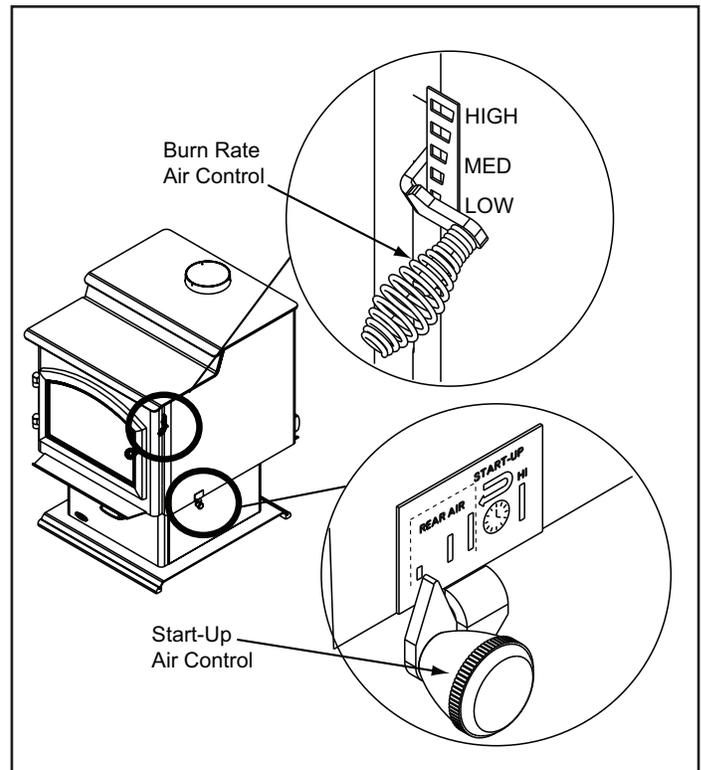

Figure 10.1 - Start-Up and Burn Rate Air Controls
The air control located at the upper right hand corner is used to adjust for burn rates. This is called the Burn Rate Air Control. **Figure 10.1 on page 10.**
- It is best to open the Burn Rate Air and Start-Up Air Controls **before reloading**. This livens up the coalbed and reduces excessive emissions (opacity/smoke). **Figure 10.1 on page 10.**
- Slide the Start-Up Air Control all the way back until it stops at the “HI” indicator on the label and then pull forward until it stops. **Figure 10.1.**
- The fire is now controlled by the air supplied by the Burn Rate Air Control. **Figure 10.1.**
- Slide the Start-Up Air Control between the first and third marker as indicated on the label to allow rear air to enter the firebox. **Figure 10.1.**